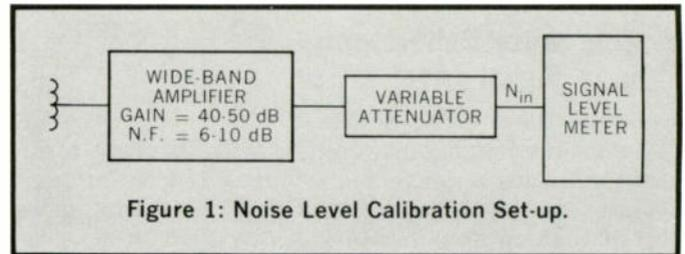

Figure 1: Noise Level Calibration Set-up.
(2) Measure its gain as accurately as possible at some convenient frequency. (Since the noise correction of the signal level meter is generally the same at all frequencies the choice of frequency is unimportant).
(3) Measure its noise figure as accurately as possible at that frequency. Noise figure is usually measured with a noise diode. Detailed instructions for this measurement are found in the instruction books accompanying the diode. Suitable noise diode sets are manufactured by the Hewlett-Packard Co. (Model 345B), General Microwave Co. (Model 551A-4), or Kay Electric Co. (Mega-Node).
(4) Terminate the input terminal of the amplifier and connect its output terminal to the signal level meter through a variable attenuator as diagrammed in Figure 1.